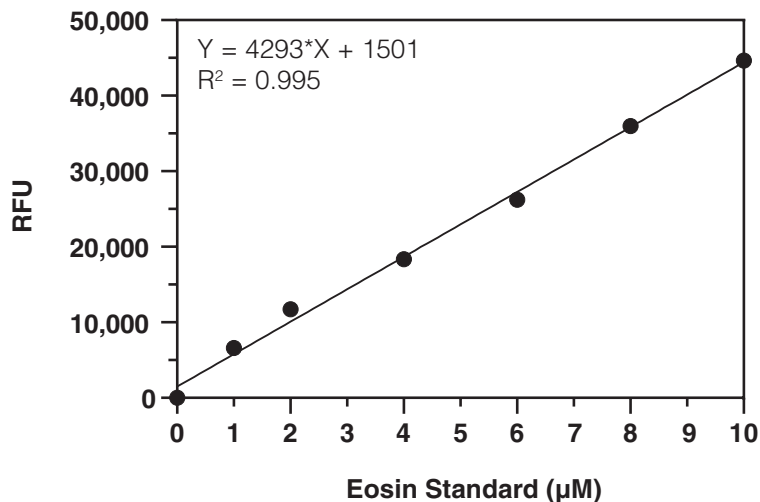

Figure 2. Eosin standard curve
2. Plot the average relative fluorescence unit (RFU) of each standard as a function of the final concentration of eosin from Table 1, page 9. See Figure 2 for a typical standard curve. The slope of this curve is called the f-slope.